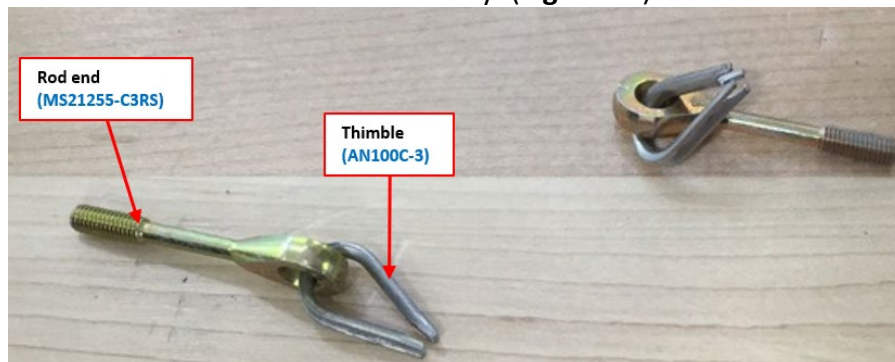

Figure 14. Rod End and Thimble
- i. Spread open an AN100C-3 cable thimble just enough to slide it through the aft cable eye of the retraction turnbuckle assembly. Repeat this with the aft cable eye of the extension turnbuckle assembly. (Figure 14)